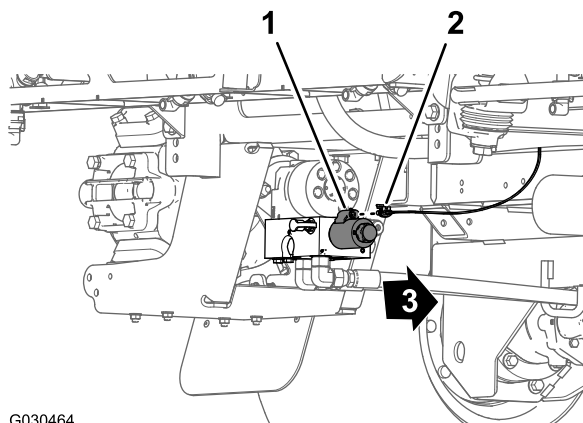

Figure 116
- At the back of the machine—inboard of the sprayer pump, connect the 2-socket connector of the 86 cm (34 inch) wire-harness branch into the 2-pin connector of the relay for the pump (Figure 116).